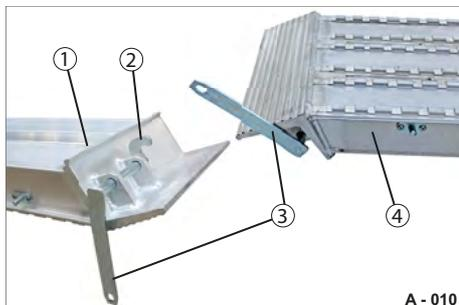
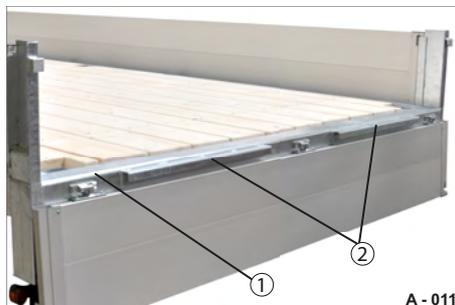

Fig. 14 Locking lever opened
Fig. 15 Chassis loading platform edge
- ▶ Check that the locking lever (Fig. 14/3) and securing hook (Fig. 14/2) are not deformed.
- ▶ If necessary, clean the securing rail (Fig. 15/2) and securing hook (Fig. 14/2) to remove all dirt.